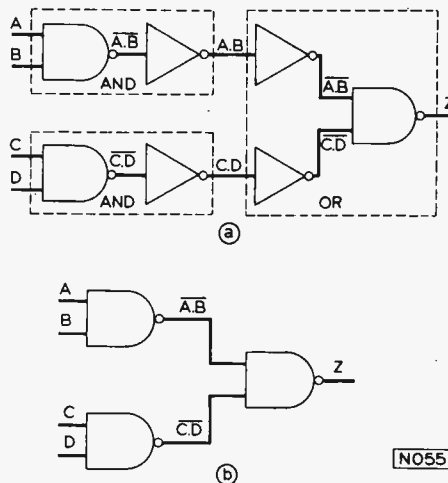

Fig. 8: Performing a logic function with "universal" gates: (a) Before simplification. (b) After removing redundant inverters.
OR, a total of three gates. Alternatively we could form it from NANDs and inverters as in Fig. 8(a) using no less than seven gates! But wait a moment, those two pairs of inverters are simply changing $\overline{A \cdot B}$ to $A \cdot B$ and back again, and similarly for $\overline{C \cdot D}$. So we can do away with them, leaving us with the circuit of Fig. 8(b) which uses three gates, all of the same type – very convenient.
The more mathematically inclined may have realised that the output (Z) of Fig. 8 besides being $A \cdot B + C \cdot D$ is also $\overline{A \cdot B \cdot C \cdot D}$ and that therefore these two expressions are equal. You're quite right, but this takes us further into the intricacies of Boolean algebra than I have room for in this article.